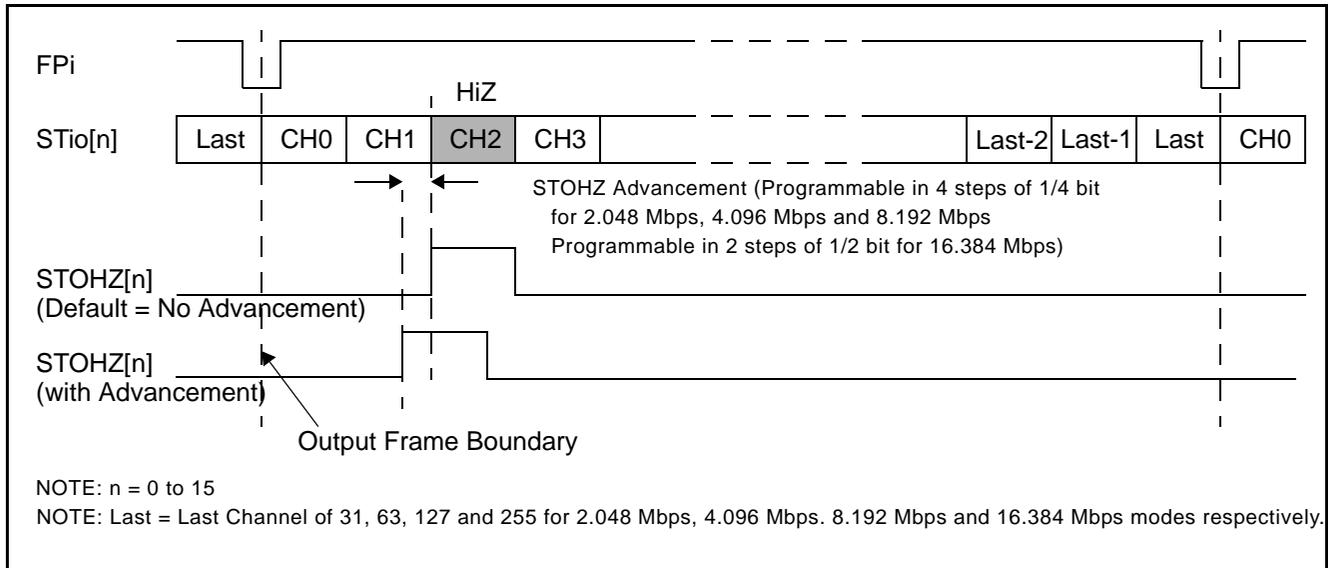

Figure 18 - Channel Switching External High Impedance Control Timing
There are 16 external high impedance control signals, STOHZ0 - 15, that are used to control the external drivers for per-channel high impedance operations. Only the first sixteen ST-BUS/GCI-Bus (STio0 - 15) outputs are provided with corresponding STOHZ signals. The STOHZ outputs deliver the appropriate number of control timeslot channels based on the output stream data rate. Each control timeslot lasts for one channel time. When the ODE pin is high and the OSB (bit 2) of the Control Register (CR) is also high, STOHZ0 - 15 are enabled. When the ODE pin, OSB (bit 2) of the Control Register (CR) or the $\overline{\text{RESET}}$ pin is low, STOHZ0 - 15 are driven high, together with all the ST-BUS/GCI-Bus outputs being tristated. Under normal operation, the corresponding STOHZ outputs of any unused ST-BUS/GCI-Bus channel (high impedance) are driven high. Refer to Figure 18 on page 32.